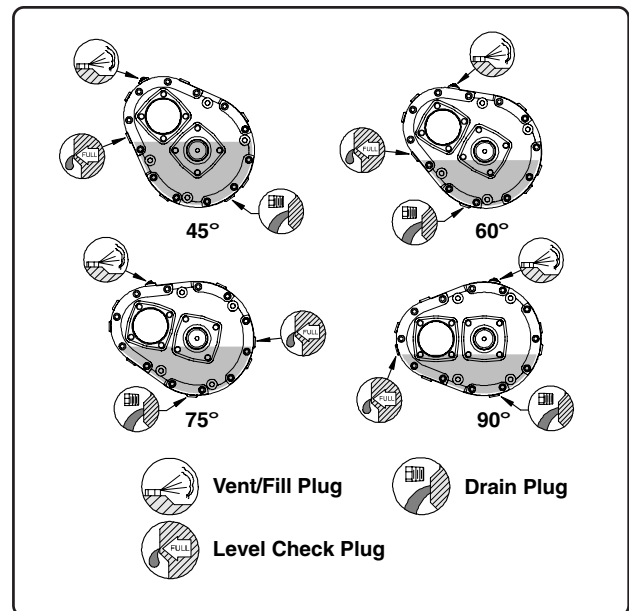

Fig. 19
1. With conveyor in the full down position, remove the vent/fill plug from the top of the gearbox and the level check plug as determined by the angle of conveyor shown in Fig. 19.